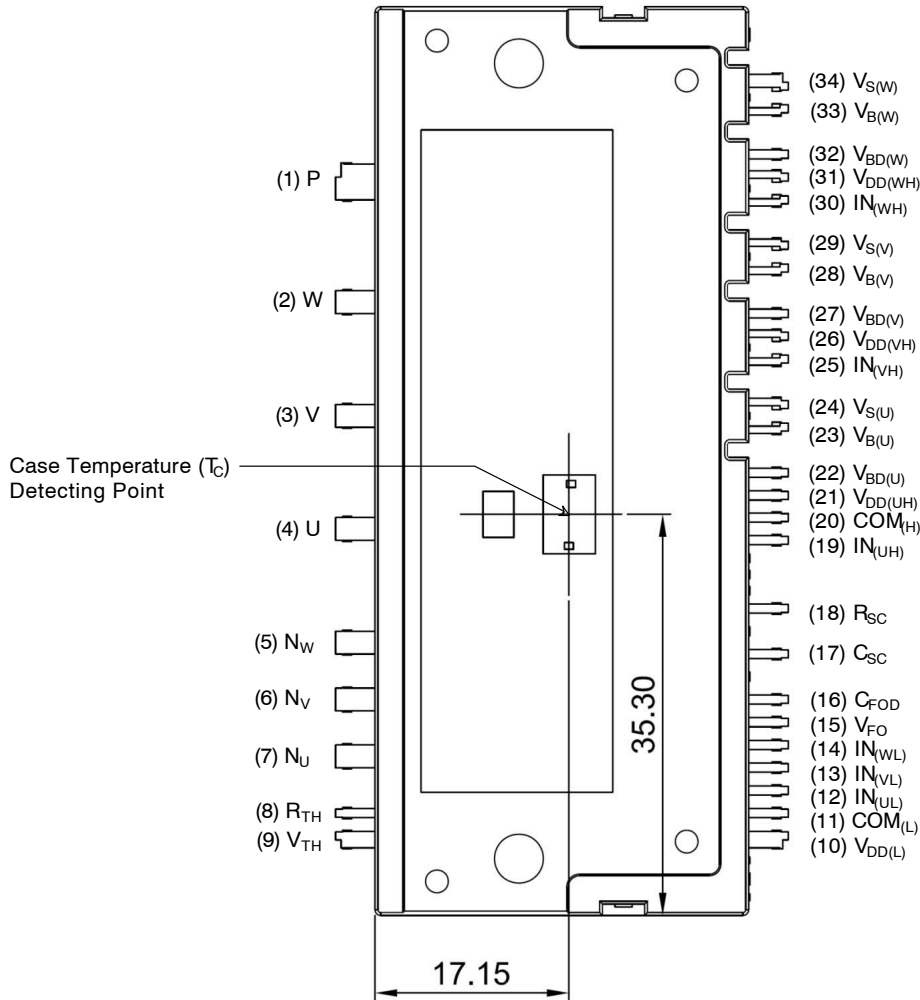

Figure 1. Top View
- 1200 V–35 A IGBT inverter for three–phase DC/AC power conversion (Refer to Figure 1)
5. For the measurement point of case temperature (T_C), please refer to Figure 1. DBC discoloration and Picker Circle Printing allowed, please refer to application note AN-9190 (Impact of DBC Oxidation on SPM[®] Module Performance).